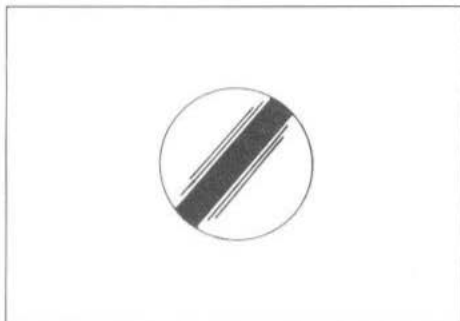

Fig. 13
- 7) As you rotate the polarizer rotation knob while looking at the objective pupil through the centering telescope (CT), a black fringe may appear at a certain position. The polarizer should be rotated to the position where this black fringe is best defined. (Fig. 13)